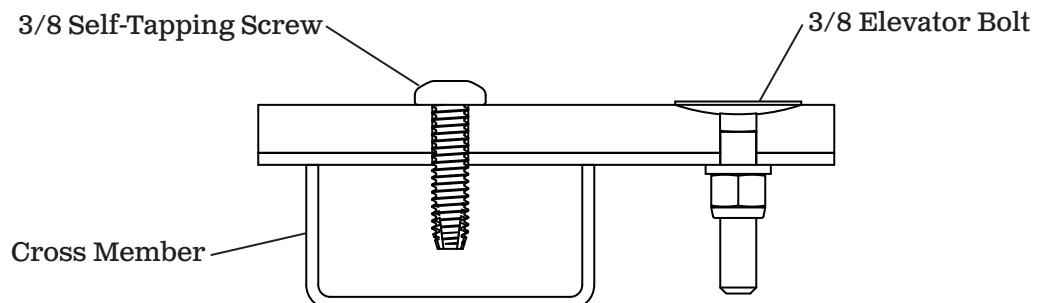

Figure 17
- 1) **Figure 17.** Measure from bulkhead to cross members and mark the liner with location of cross members. Use 3/8 self-tapping screws into cross members to hide screws from the outside. If 3/8 elevator bolts are used, access to the bolt from underneath is needed to install the lock washer and nylon nut.